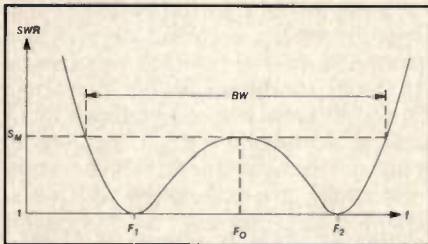

Figure 7. Perfect match at two frequencies.
It is possible to find a value of  $Z_N$  which provides a perfect match at two frequencies, as seen in Figure 7 (6). For this case,